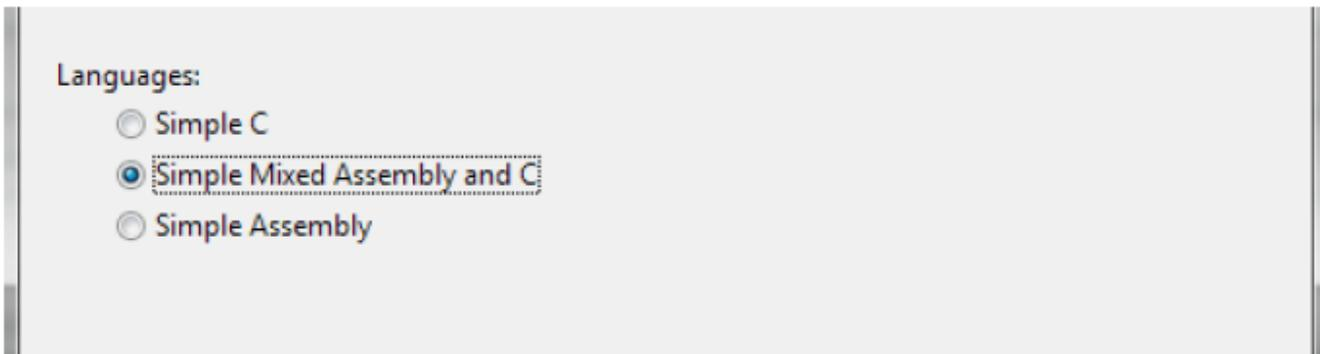

Figure 4. Language choice
7. Out of the options given, select the Simple Mixed Assembly and C language option to choose the language to be used and click Finish. See Figure 4.